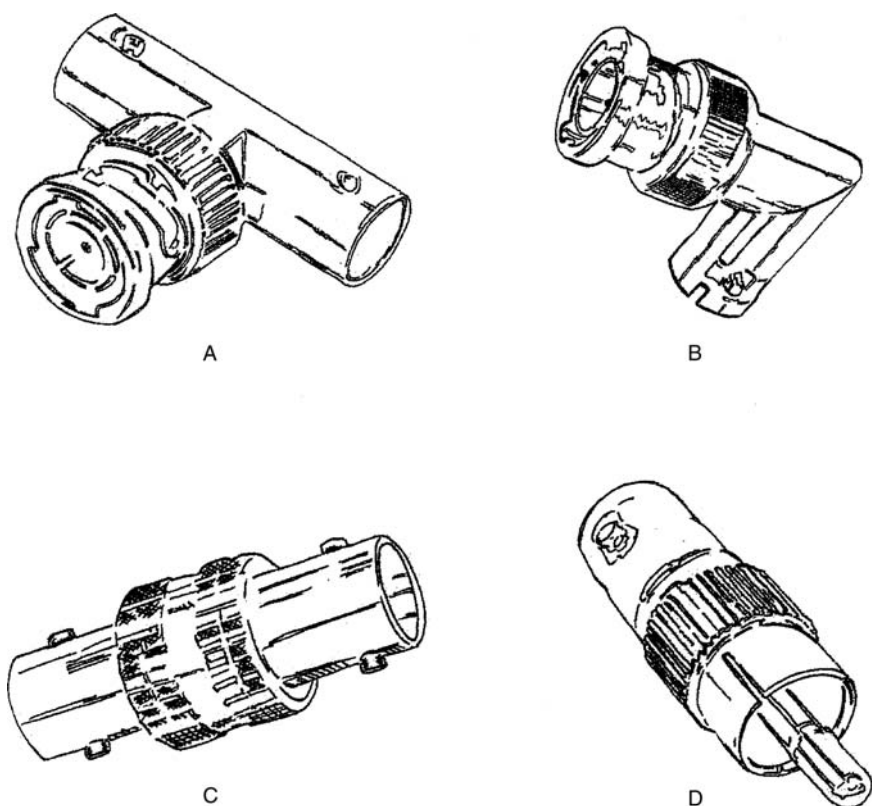

Figure D.16 A, BNC T-Connector. B, BNC Right-Angle Adapter. C, BNC Barrel Connector. D, BNC-to-RCA Adapter.
- Assorted video connectors and cables (see Figure D.16)